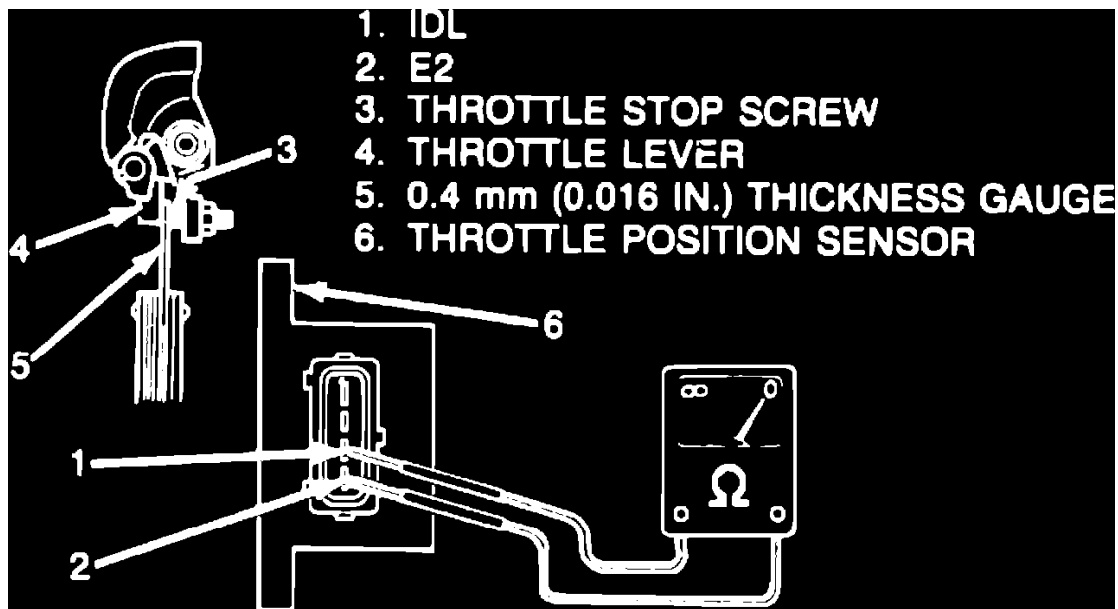

Fig. 21 Adjusting throttle position sensor
- b. Ensure no continuity exists between IDL and E2 of throttle position sensor when a .031 inch thickness gauge is inserted between throttle stop screw and throttle lever, **Fig. 21**.